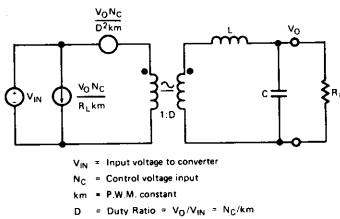

Figure 6. Linear Equivalent Circuit
In experimentally attempting to confirm satisfactory operation of the output stages, the designer hopes to prove that a linear equivalent circuit model is valid for reasonable analysis. One such model as proposed by Middlebrook(5) is shown in Figure 6. . This model describes the overall AC and DC transfer function and input and output impedances in terms of the duty cycle and modulation constant. This model assumes that the effects of operating frequency, switching delays, and parasitic elements are well above the frequencies of interest as defined by the output LC filter.